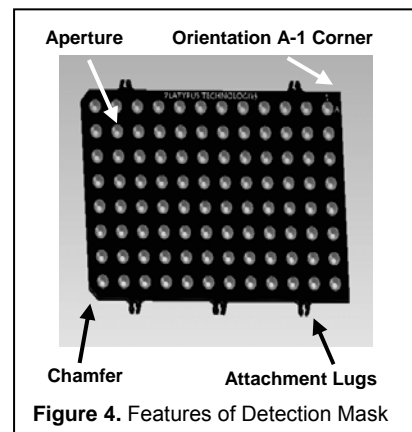

Figure 4. Features of Detection Mask
- Orient the chamfered corners of the mask with those of the 96-well plate, ensuring that the A1 corner of the mask is aligned with the A1 well of the plate (see Figure 4).